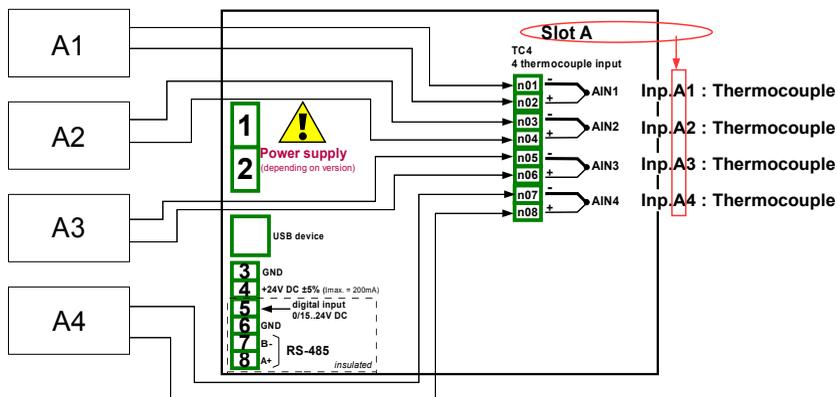

Fig. 7.54. Schematic diagram for the TC4 module
Before measuring temperature the thermocouple sensors should be connected to the device. An example of how the connection is shown in Fig. 7.54 (see also **Appendix 8.3tc4, tc8 – THERMOCOUPLE SENSOR MEASUREMENT modules**).
- choose as the source - **Inp. A1: Thermocouple** (see the connection in Fig. 7.54), press the **Source configuration** button to set the source configuration options,